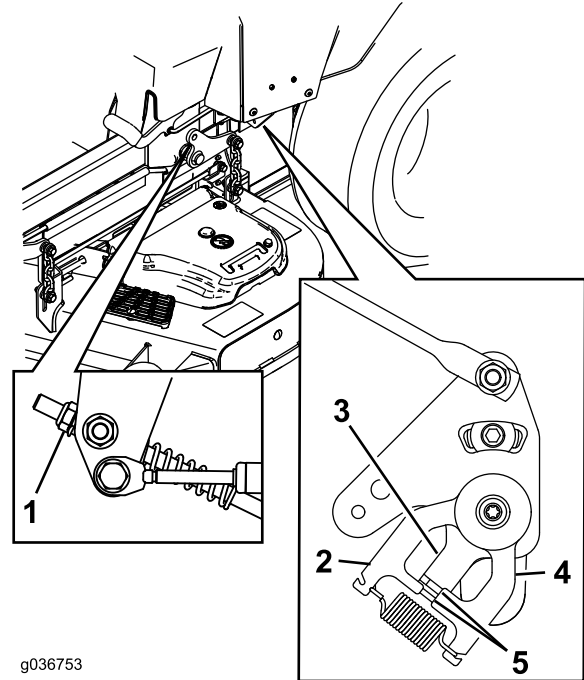

Figure 104
11. Adjust the pump-control-rod lengths by rotating the nut in the appropriate direction until the wheels slightly creep in reverse (Figure 104).